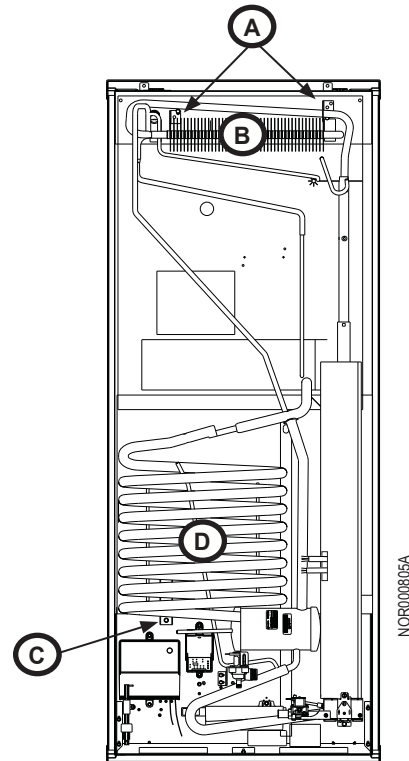

Fig. 9 - Cooling Unit Mounting Screws
1. Remove condenser screws (Fig. 9, A) (2x) holding the condenser (Fig. 9, B) to the rear of refrigerator. Lay aside.
2. Remove absorber screw (Fig. 9, C) (1x) holding the absorber coils (Fig. 9, D) to the rear of refrigerator. Lay aside.
- Put a screw (2x) (Fig. 9, A) through the condenser bracket on each end of the condenser (Fig. 9, B) to attach the condenser to the refrigerator cabinet. DO NOT fully tighten the screw at this time.
- Put a screw (1x) (Fig. 9, C) through the absorber bracket on the refrigerator cabinet. DO NOT fully tighten the screw at this time.